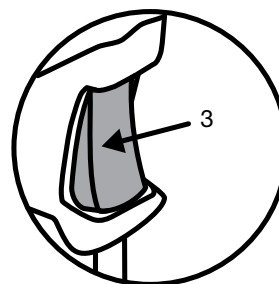

Figure 2
3. Press and release trigger confirm selection (Fig.2).